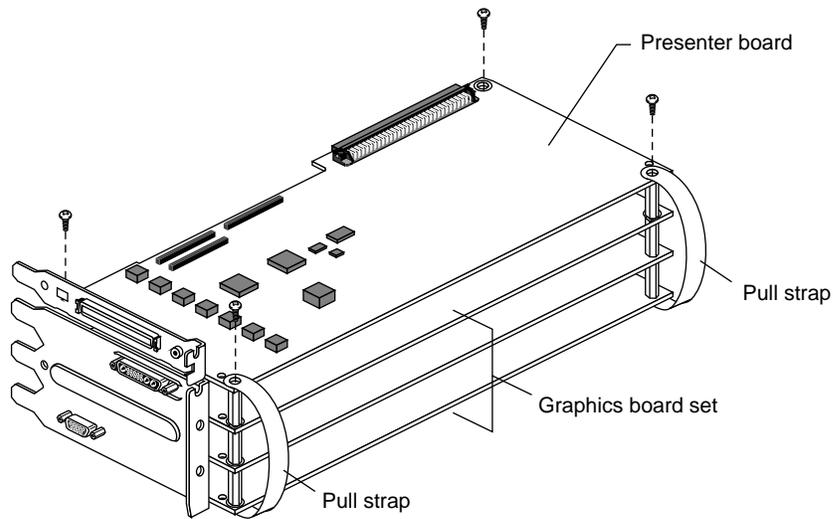

Figure 1-30 Attaching the Presenter Board to the Graphics Board Set
1. Attach the Presenter board to the graphics board set, as shown in Figure 1-30.
- Insert and tighten the remaining two screws. See Figure 1-30.